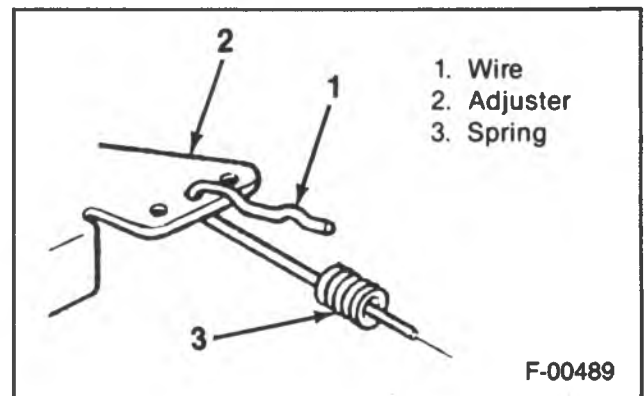

Figure 1 — Adjustment Points
3. Wire assembly tension. Three holes on the secondary adjuster rail allow for tension adjustment of the wire assembly (figure 1).